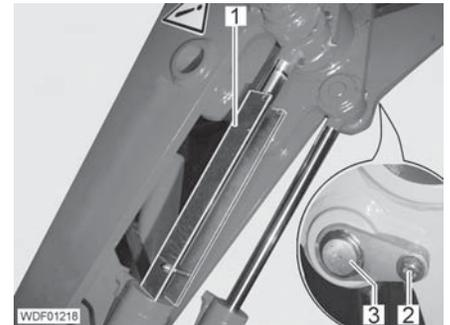

Fig. 238 Securing the lift frame
- Raise the lift frame and secure it to prevent accidental lowering (Fig. 238,1).